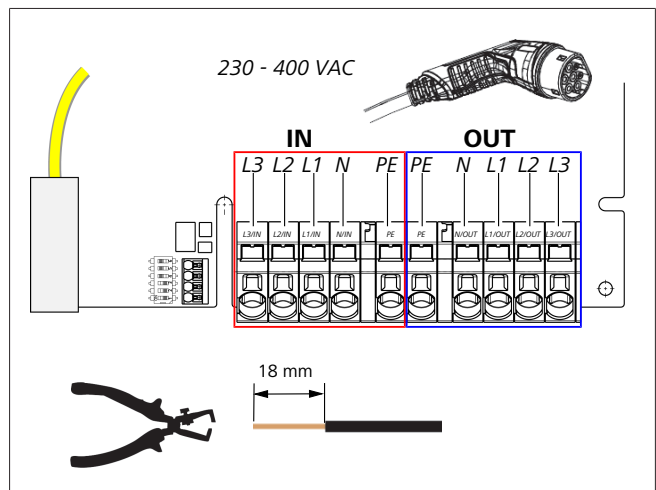

Fig. 8
9. Using the slot-head screwdriver (3.5 mm), connect the individual cable ends according to the specification in the illustration (Fig. 8) on the left terminal block with the "IN" label.